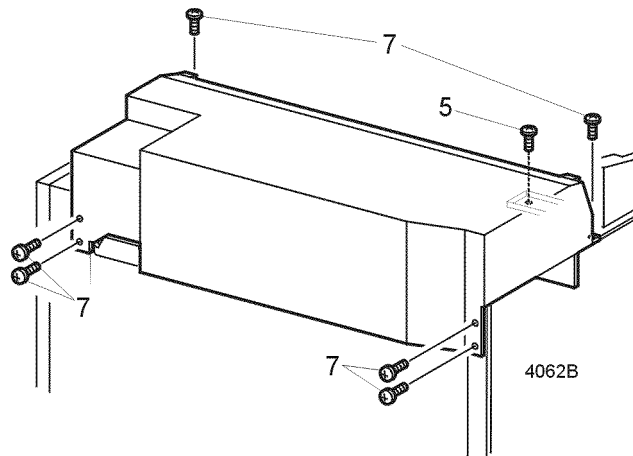

Figure 1 Laser Cover
7. Remove the six screws that secure the Laser Cover to the printer (Figure 1). Move the top of the right cover to the right and remove the Laser Cover.